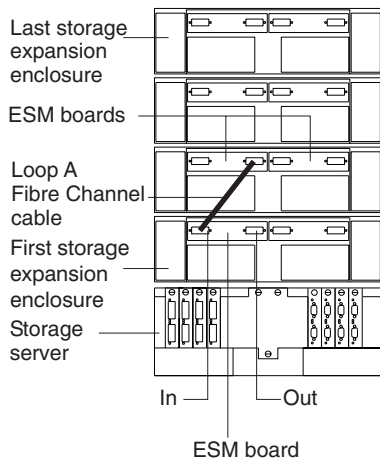

Figure 9. Connecting two storage expansion enclosures into drive loop A
1. Connect the first two storage expansion enclosures to drive loop A, as shown in Figure 9 on page 11. Starting with the first storage expansion enclosure, connect a fiber-optic cable from the In port on the left environmental services module (ESM) board to the Out port on the left ESM board in the second (next) storage expansion enclosure.